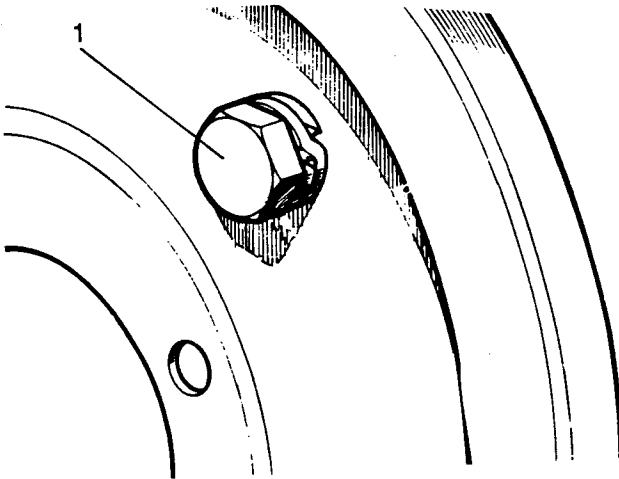

Fig K1.3
(3) Refer to Fig K1.3. Ensure that the wheel is free to rotate. Back off the adjusters (1) if necessary.
(4) Turn in the adjusters until the brake shoes contact the wheel drum.
(5) Back off two serrations on the adjusters (1).
(6) Lower the wheel to the ground.